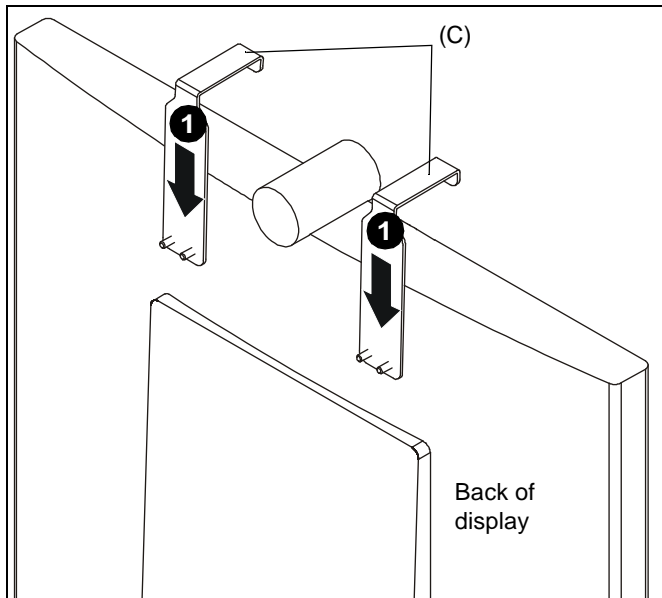

Figure 1
1. Hook two clips (C) over top of display, with long edge of clip on back of display. (See Figure 1)